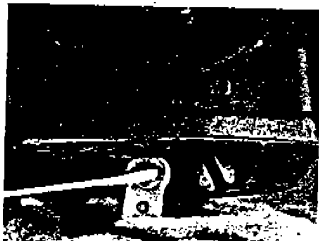

Figure 2 Removing E-ring
3. With a small screwdriver, remove E-ring (71) from the side of the cam arm opposite the counterbore. A clean shop rag should be positioned around the cam arms to prevent the loss of the E-ring into the pump housing. See Fig. 2.
4. Remove clevis pin (73) with 2nd E-ring and slip the control link (72) from the cam lever. Remove gasket (65) from control housing.
5. When reinstalling servo, place gasket (65) on pump housing using a thin coat of clean oil to hold it in place.